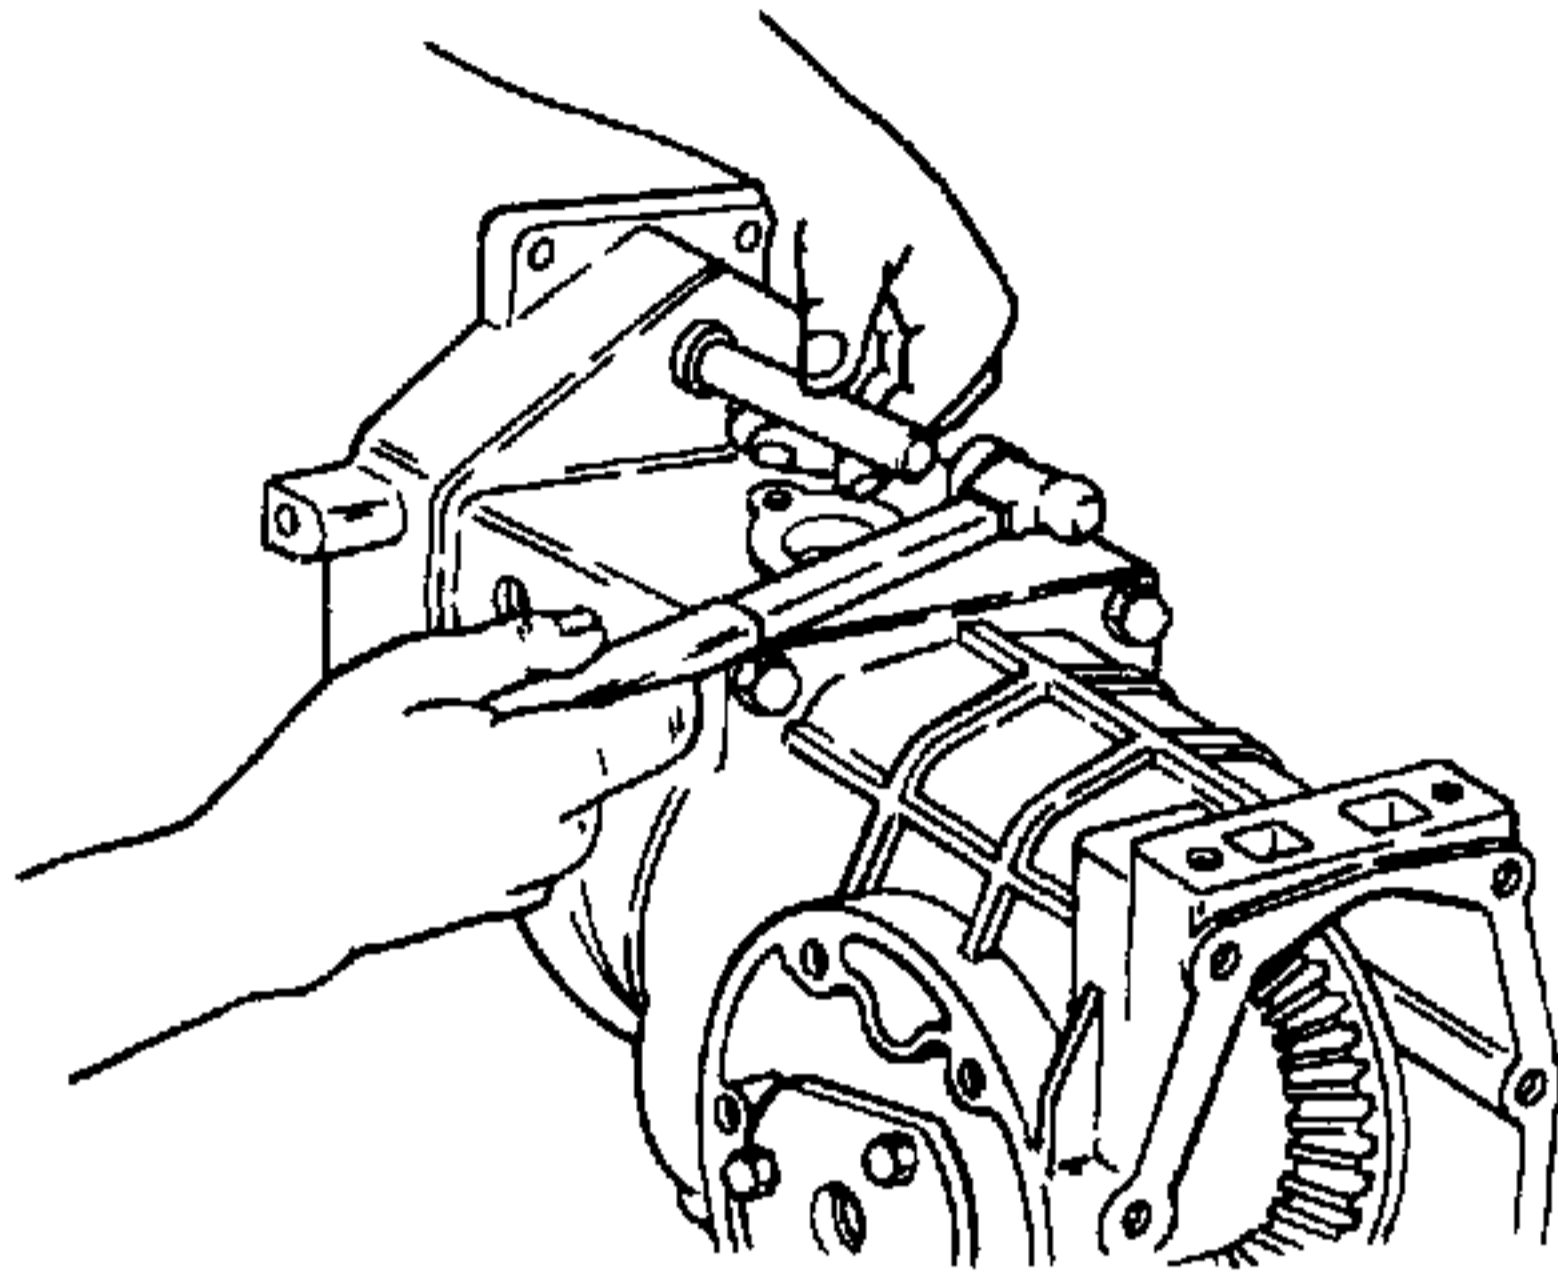

Figure 5-95. Using Punch to Remove Input Shaft.
1. Remove input shaft (9) as follows:
- a. Insert punch, smaller than 1 inch diameter, as shown in Figure 5-95.